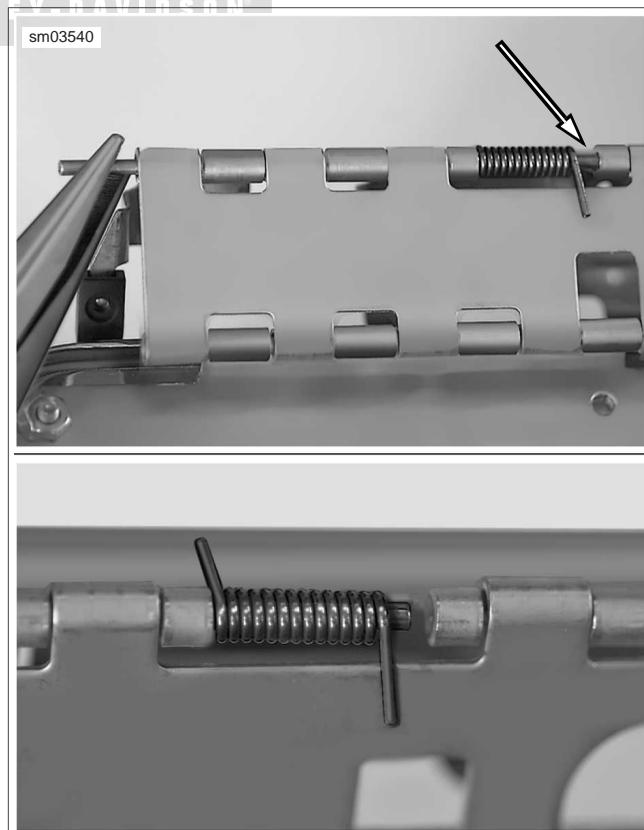

Figure 2-111. Lid Up Side Down With Latch on Far Side
11. Using a needle nose pliers, grasp pin through opening just outboard of the spring and push toward the crimped link side. Work pin in this manner until end can be seen exiting crimped link. See upper frame of Figure 2-111. If necessary, pry crimped link outward a little more to achieve the desired result.
12. Grasping end with needle nose pliers, slowly pull pin from links until spring can be slid off opposite end. Only pull pin as far as necessary to remove spring. See lower frame of Figure 2-111.
1. Slide **new** spring onto end of pin. Orient spring as shown in lower frame of Figure 2-111.